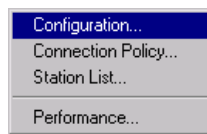

Figure 4-1. The FDDI Menu
1. Click on **FDDI** in the Module View; drag down to select **SMT 1**, and to the right to reveal the following FDDI menu (Figure 4-1).